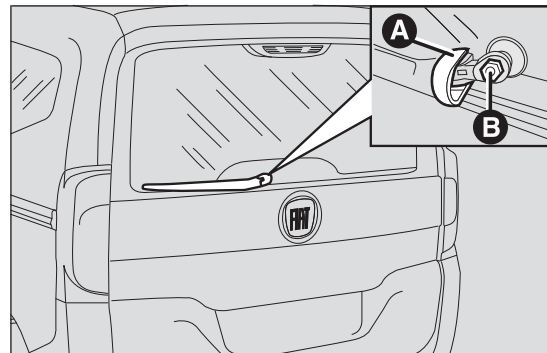

fig. 190
- ☐ raise the cover A fig. 190 and remove the arm from the vehicle by loosening nut B that fastens it to the pivot pin;